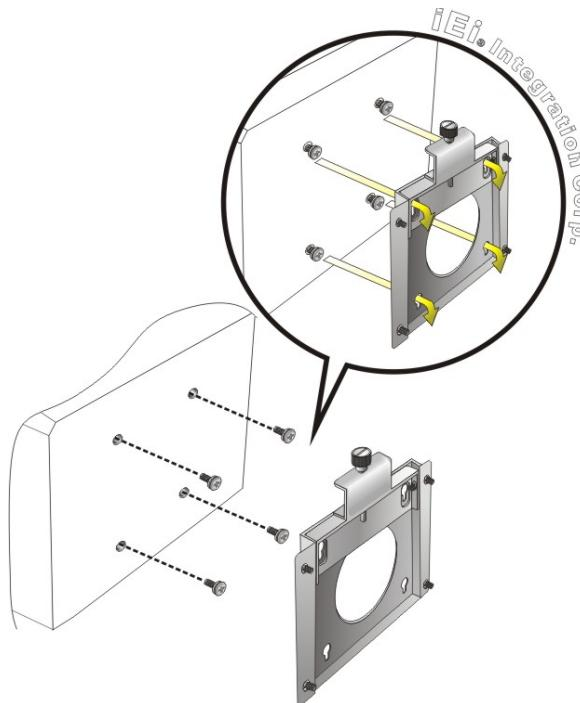

Figure 3-11: Chassis Support Screws
Step 6: Insert the four monitor mounting screws provided in the wall mount kit into the four screw holes on the real panel of the flat bezel panel PC and tighten until the screw shank is secured against the rear panel (**Figure 3-11**).
Step 8: Carefully insert the screws through the holes and gently pull the monitor downwards until the monitor rests securely in the slotted holes (**Figure 3-11**). Ensure that all four of the mounting screws fit snugly into their respective slotted holes. Always keep the AFL3-08A-BT in landscape orientation when mounting on the wall.